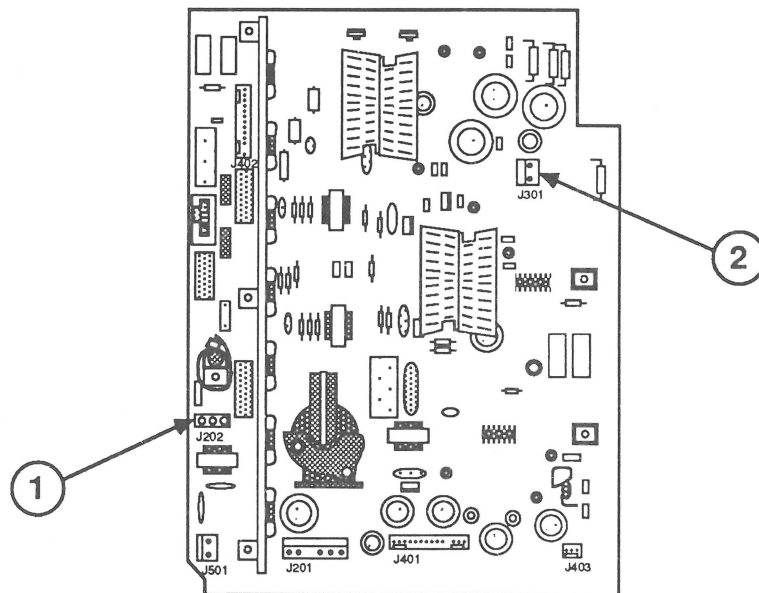

FIGURE 37
7. Disconnect from the main board the two connectors listed in Table 5 and shown in Figure 37.